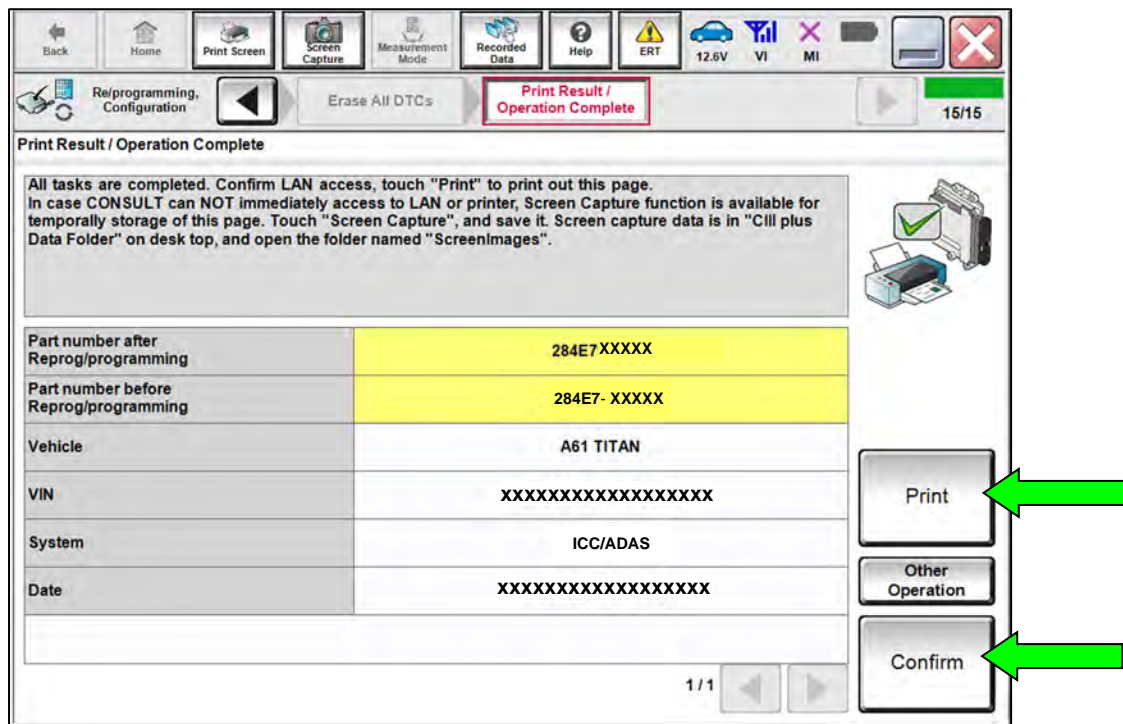

Figure 21
**HINT:** When the entire reprogramming process is complete, the screen in Figure 21 will display.
36. Print a copy of the screen below (Figure 21) and attach it to the repair order for warranty documentation.
**HINT:** The vehicle’s “NEW ICC/ADAS PART NUMBER” can be helpful to confirm the applicable “NEW (Latest Type ID)” (refer to **Part Number After Repro/programming** from Figure 21 on page 17).